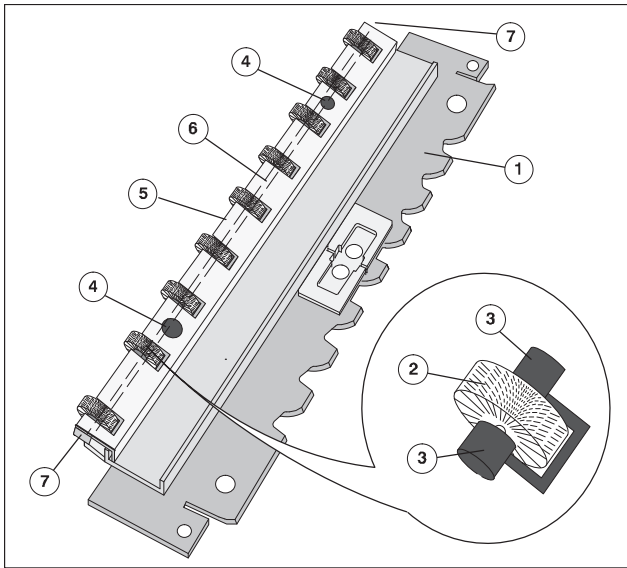

Fig. 36 Replacing the brush rollers at the guide plate
1. To replace the brush rollers (in case of wear), you must remove the guide plate (Fig. 36/1).
2. Using the operator tool, completely unscrew both screws (Fig. 36/4) and remove the cover plate (Fig. 36/5) above the spring clips.
3. Slowly pull the rod (Fig. 36/6) out of the spring clips. The brush rollers (Fig. 36/2) fall out when the rod is pulled out.
4. If necessary, compress the spring clip (Fig. 36/3) and pull out of the guide in the guide plate.
5. To **insert**, let the spring clips (Fig. 36/3) engage in the lateral guide in the guide plate.
7. Place the cover plate (Fig. 36/5) over the spring clips. The connecting links at the faces of the cover plate (Fig. 36/7) secure the inserted rod.
8. Insert the two screw fasteners (Fig. 36/4) and tighten with the operator tool.